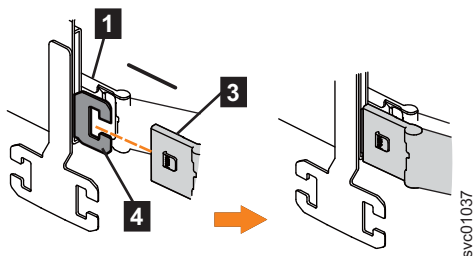

Figure 46. Install the inner connector of the upper CMA to the inner member of the support rail
3. Install the inner connector of the upper CMA assembly (3) to the inner member of the left support rail (4), as shown in Figure 46 on page 66.